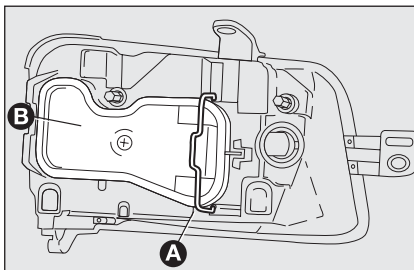

fig. 21
- release clip **A-fig. 21** and remove cap **B**;